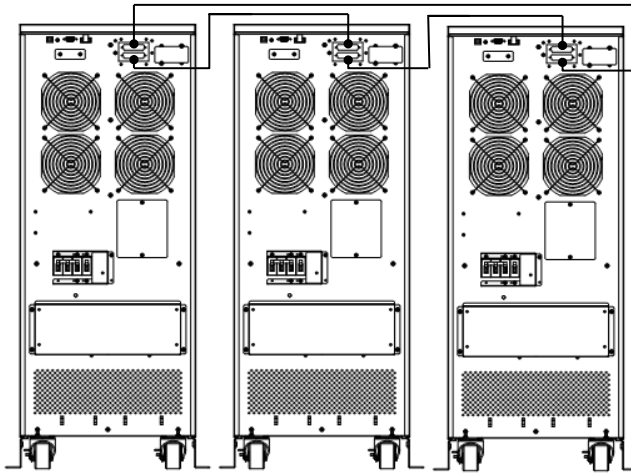

Fig.6-1 Parallel cable connect diagram
- 2) Remove the cover plate of the parallel port on the UPS, connect each UPS one by one with the parallel cable, and re-screw the Parallel port cover which is supplied in the accessories. See Fig.6-1.